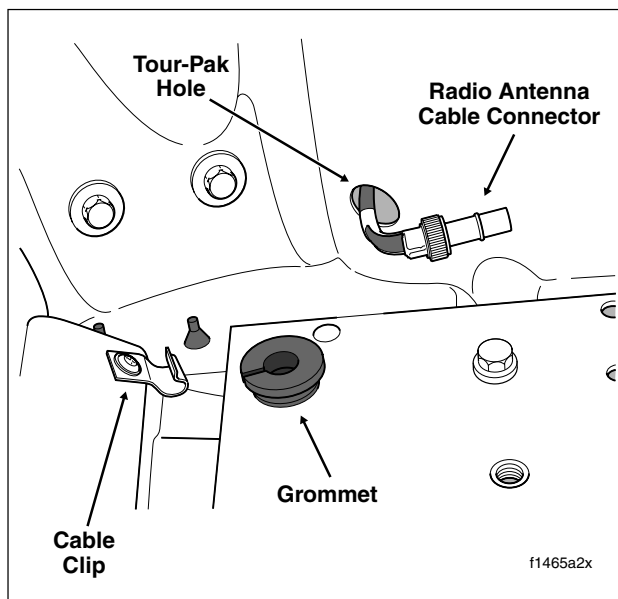

Figure 8-168. Feed Main Harness Thru Tour-Pak Hole
13. Pull Tour-Pak lights and radio antenna cable connectors through hole at front of Tour-Pak. See Figure 8-168.